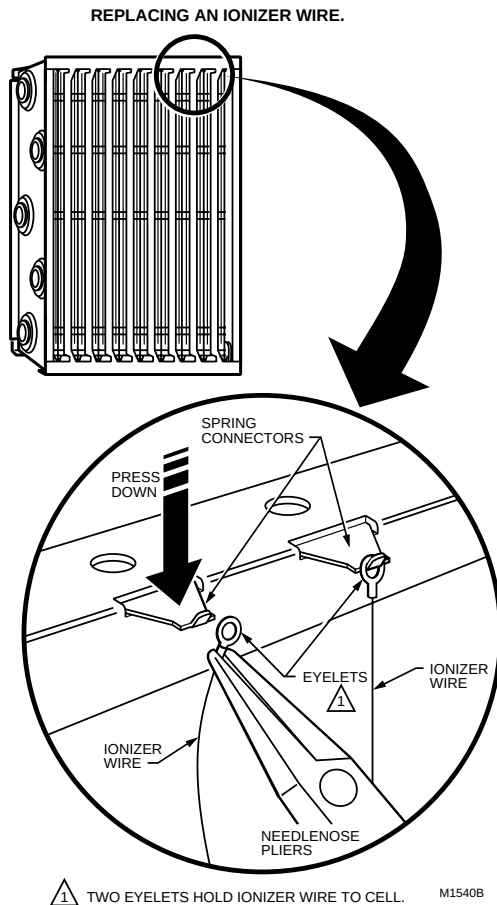

Fig. 14. Replacing an ionizer wire.
1. Hook the eyelet on one end of the wire over the spring connector on one end of the cell. See Fig. 14. Be careful to avoid damaging spring connectors or other parts of the cells.